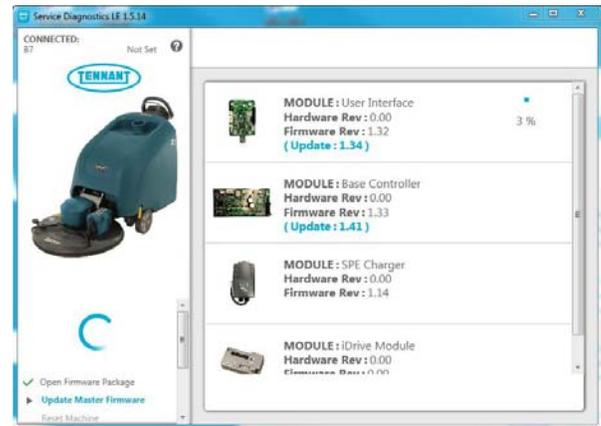

Fig. 7
- The application will begin the process of configuring the new control board and drive module. The following screen will appear (Figure 7). During this process, the application may prompt for key cycles. Turn off key, wait a few seconds and turn key back on to continue. The process will also automatically update any machine firmware as needed.